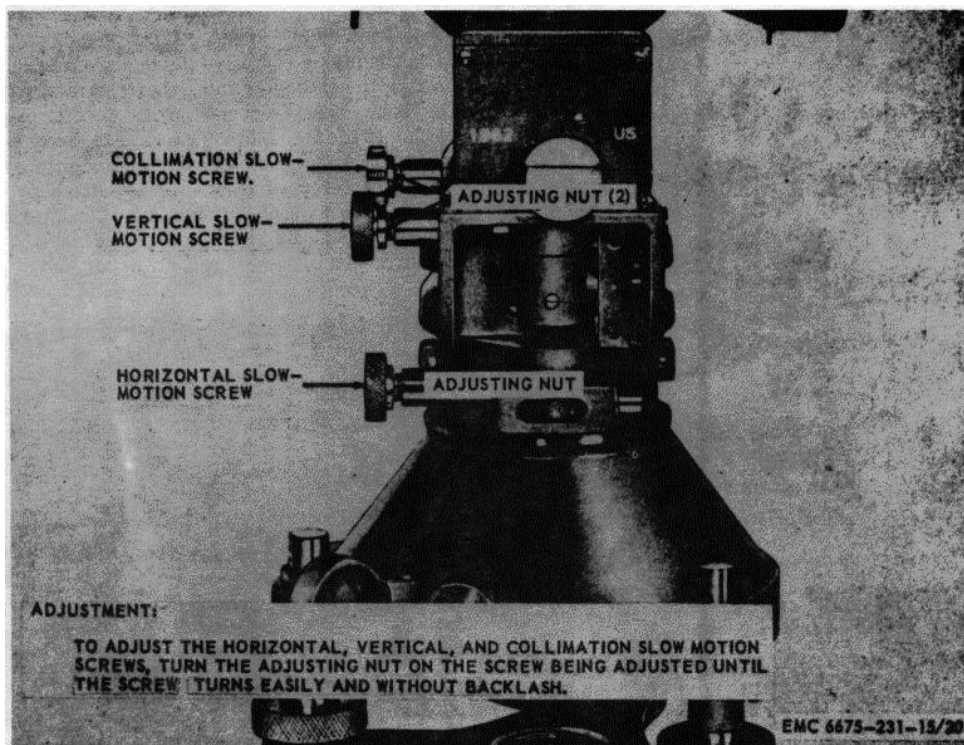

Figure 20. Horizontal, vertical, and collimation slow-motion screws, adjustment.
c. *Horizontal Slow-motion Screw.* Refer to figure 20 and adjust the horizontal slow-motion screw.
d. *Vertical Slow-motion Screw.* Refer to figure 20 and adjust the vertical slow-motion screw.
e. *Collimation Slow-motion Screw.* Refer to figure 20 and adjust the collimation slow-motion screw.